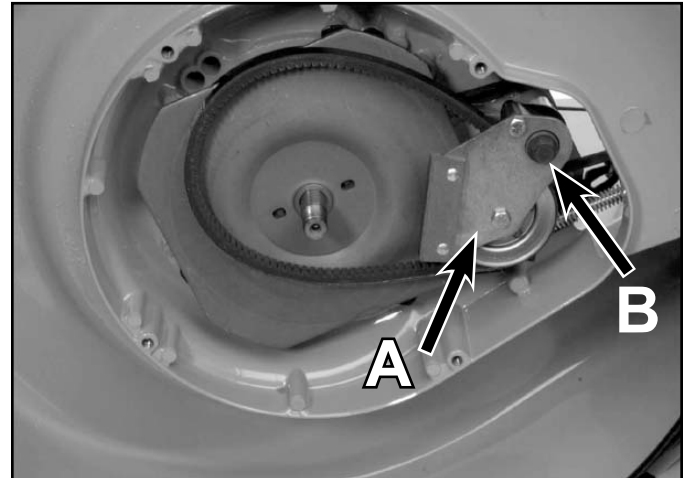

Fig 174
3. Loosely secure the brake plate, complete with brake pad, to the brake lever and brake hub as shown in Figure 174. Note that the bolt should go through the brake plate first. Secure with a nylon locknut but do not tighten at this time. This will allow proper alignment of the idler pulley later.
4. Install an idler hub into each side of the idler pulley bearing, then slip the belt onto the idler pulley. Slip the entire assembly between the brake plate and brake lever. Secure the carriage bolt and nylon locknut as shown in Figure 174.